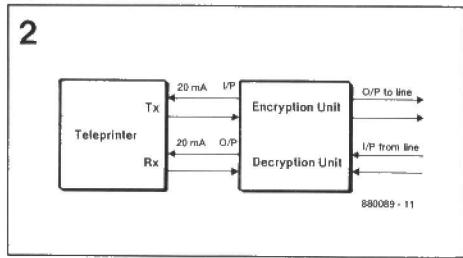

Fig. 2. Interfacing arrangement using 20 mA current loop.
the encryption unit. For simplicity, we will assume that the start and stop bits are not encrypted which is the procedure used in most cipher machines. The 5-bit block can be encrypted as a single block or one bit at a time. These are called Block and Stream Encryption respectively. (Usually blocks are made up of 64 or more bits.) The reader is referred to Ref (1) for an analysis of the various encryption operations. These need not be examined in this article. The actual electrical connection between teleprinter and encryption device is a 20 mA current loop illustrated in Figure 2. The start pulse has the same duration as a data pulse. The stop pulse is 1.5 times the duration. Hence, the code is referred to as a 7.5 bit code. There are 31 possible combinations ( $2^6 - 1$ ) because the state 00000 is not used. The normal speed is 50 or 75 baud. There are other codes with other interfacing arrangements but the overall concept demonstrated by this example holds.